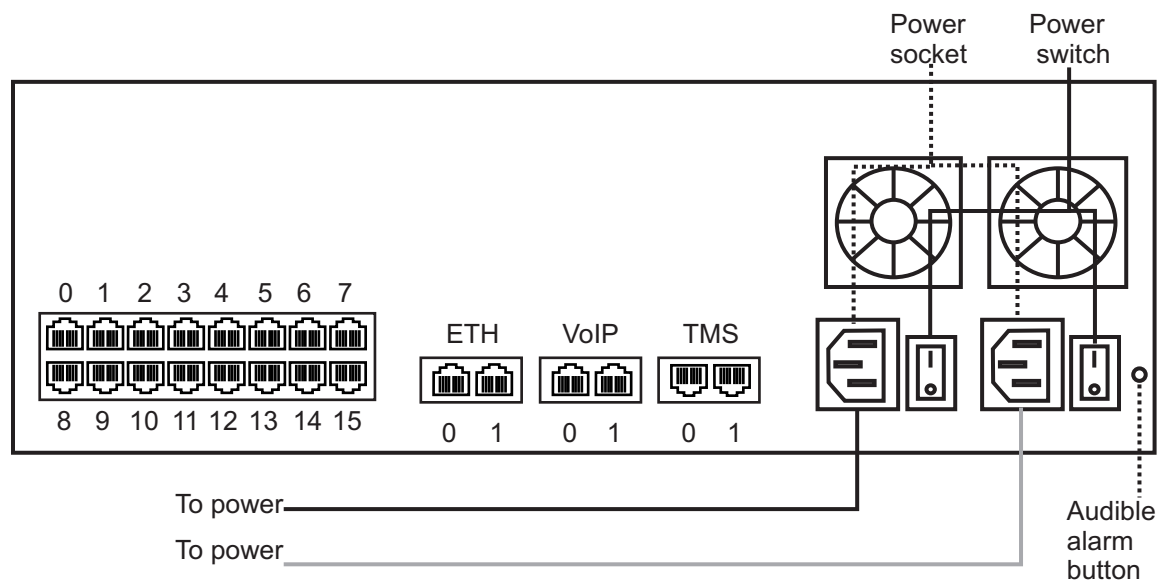

Figure 2.9 AC Power Connection
1. Connect an AC power cable between the AC connector of the TMG3200 and an AC supply. See figure 2.9 on page 19.
Note If the TMG3200 features a second power supply and it is not connected to an AC power source, press the green button located at the rear of the unit to disable the audible alarm. See figure 2.9 on page 19.